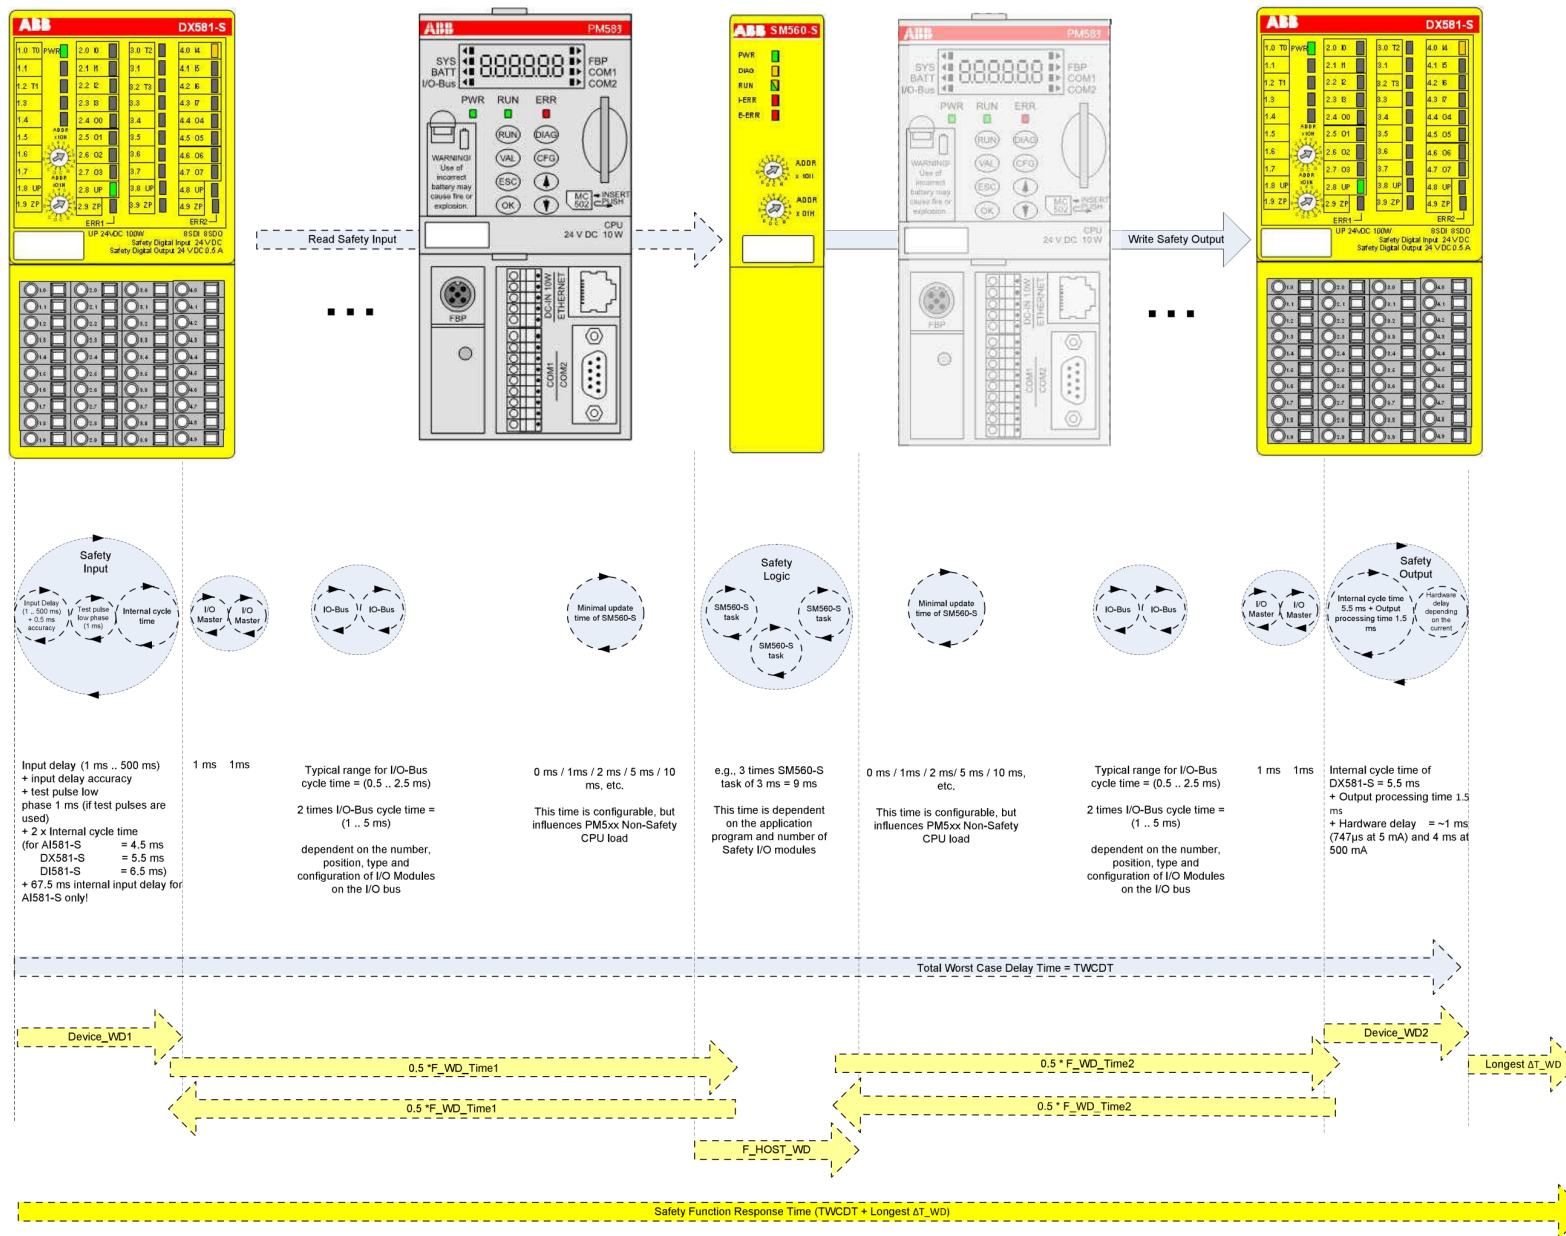
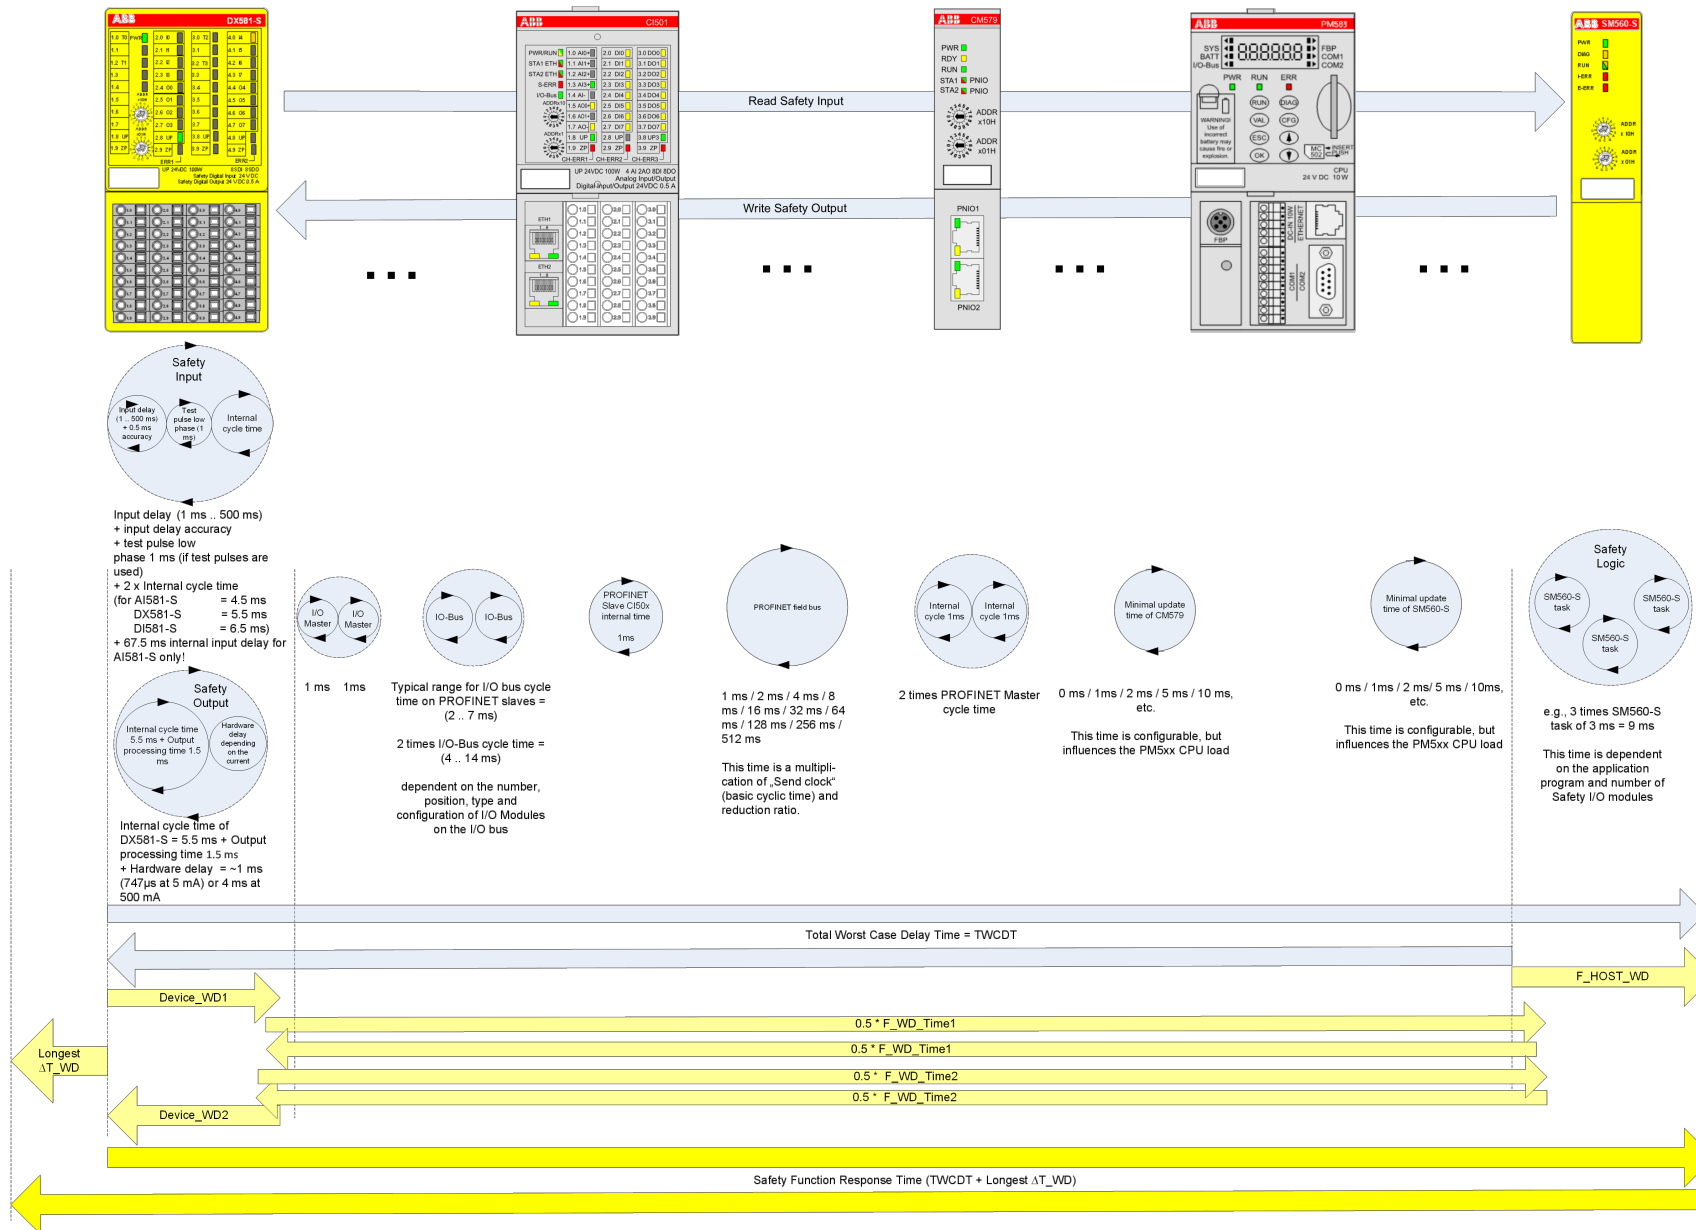

Fig. 126: SFRT in AC500-S system without PROFINET components
Fig. 127: SFRT in AC500-S system with PROFINET components
Fig. 126 and Fig. 127 explain SFRT in more details. The model in Fig. 126 and Fig. 127 includes the stages of input signal reading, safe data transfer, safe logic processing, safe data transfer and safe signal output.
The following terms are defined in Fig. 126 and Fig. 127:
- Device\_WD1 and Device\_WD2 as worst case delay times for Safety I/Os can be directly calculated as it is shown in Fig. 126 and Fig. 127.
- It is not always easy to calculate the worst case delay time of “Black channel” components (see AC500 Non-safety modules in Fig. 126 and Fig. 127). Thus, we propose to use half of F\_WD\_Time1 and F\_WD\_Time2 instead. F\_WD\_Time1 and F\_WD\_Time2 can be empirically obtained for the given AC500 system configuration by tracing the values of tResponseTimeMS for given Safety I/Os in the safety application. Use PROFIsafe instance for the given Safety I/O (↪ *Chapter 4.6.3 “SafetyBase\_PROFIsafe\_AC500\_V22\_Ext.lib” on page 231*). F\_WD\_Time1 and F\_WD\_Time2 shall be set about 30 % higher than the worst case value observed in the tResponseTimeMS for the given Safety I/O.
Based on Fig. 126 and Fig. 127, the following exemplary SFRT values can be achieved for some typical AC500-S configurations using Equation 2, page 396: